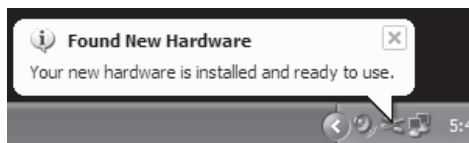

Figure 10
2. When it is finished installing the drivers, it will say "Your new hardware is installed and ready to use" (figure 10).